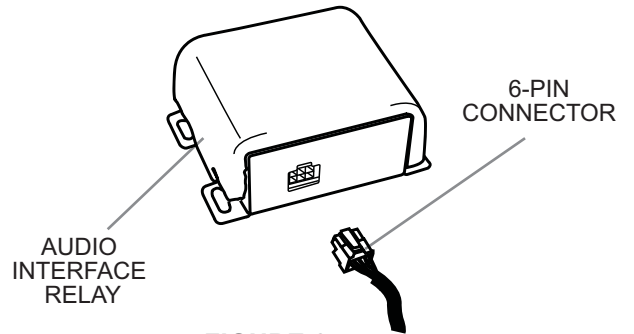

FIGURE 67
- 1.) CONNECT THE 6 PIN CONNECTOR ON THE DVD MAIN HARNESS TO THE 6 PIN CONNECTOR ON THE AUDIO INTERFACE RELAY. (SEE FIGURE 67)